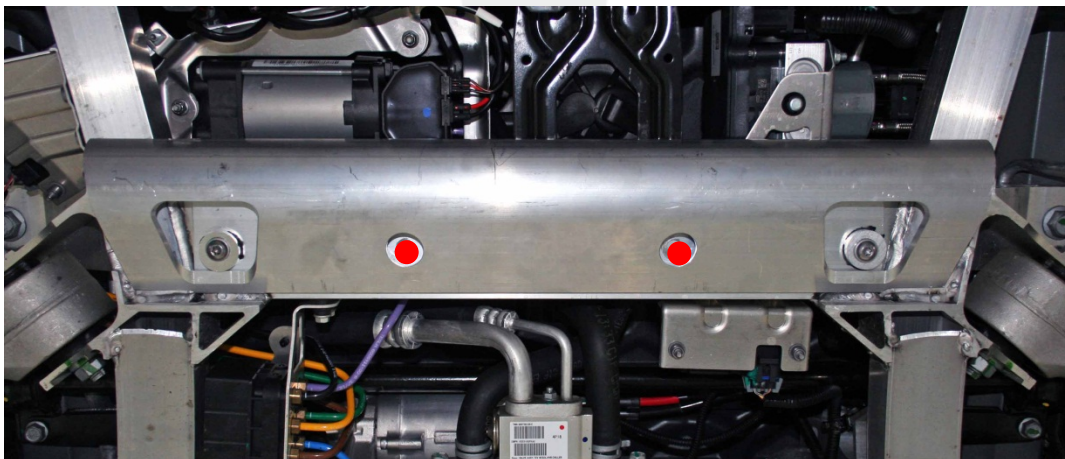

Figure 5
3. Position the skid bar in place beneath the front subframe and hand-tighten the bolts (1014288-00-B) (Figure 5). Do not torque the bolts at this time.
4. Using a center punch, mark two drill holes on the front subframe through the middle holes on the skid bar (Figure 5).